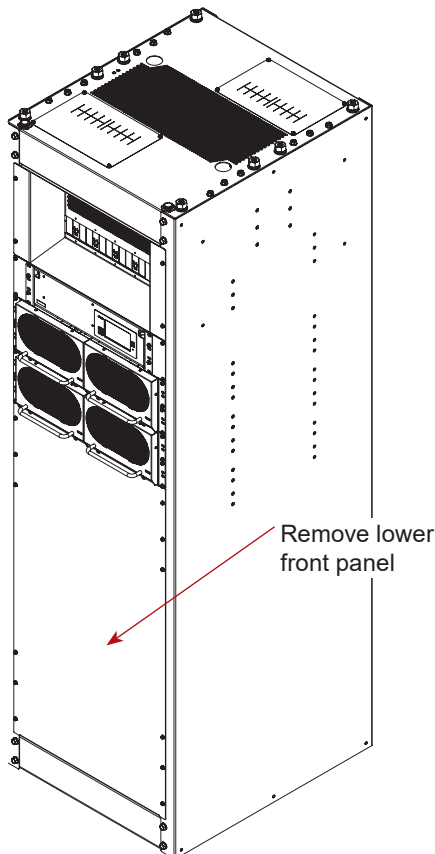

Figure 18 — Accessing Base Mounting Holes PECO II
3. Use a 5/16th nut driver to remove the lower front panel of the CXPS-FR3 to access the mounting holes in the base of the frame. See Figure 18.